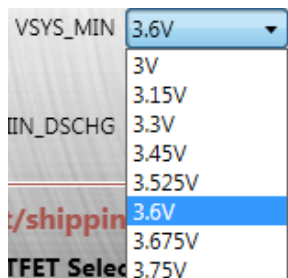

Figure 15: V_{sys_min} Setting
13. Set the V_{sys_min} voltage threshold (see Figure 15). This threshold ranges between 3V and 3.75V, and the default value is 3.6V.